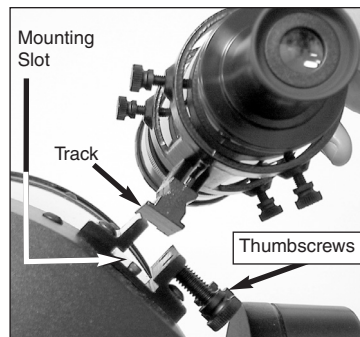

Fig. 6a: Viewfinder Assembly.
1. Slide the track on the bottom of the viewfinder bracket into the slot in the viewfinder mounting assembly. See **Fig. 6a**. To secure the viewfinder to the mounting assembly, tighten the two thumbscrews (**Fig. 6a**) to a firm feel only.